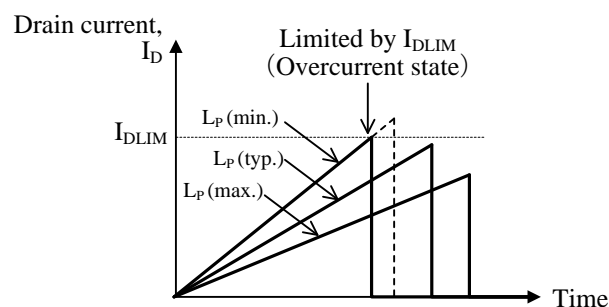

Figure 13-2 Relation between L_p and drain current I_D
- 2) The peak value of drain current I_D in normal operation is determined by L_p value. Since the slope of I_D is expressed as V_{DS}/L_p , the smaller the L_p value, the steeper the slope of I_D becomes. Thus the peak value of drain current becomes high as shown in Figure 13-2. The IC limits the peak current by drain current limit I_{DLIM} (Overcurrent state). If L_p value becomes small by variation, there is the case that the system is in overcurrent state. Then the designed output power cannot be achieved. Thus the L_p value should be determined after the confirmation in actual operation using minimum L_p value within the variation, where the peak current value should be less than $I_{DLIM(MIN)}$ in minimum input voltage of power supply.